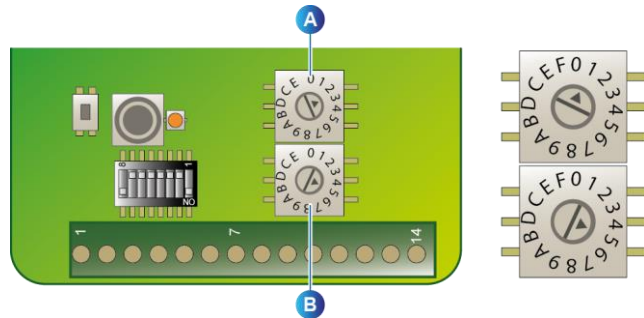

Figure 50: configuring the address of the wireless card.
1. Check that the addresses have been configured properly (rotary switches, *OLCT 80* wireless cards (Figure 50, A and B) and *master* receiver wireless cards (Figure 52, D).